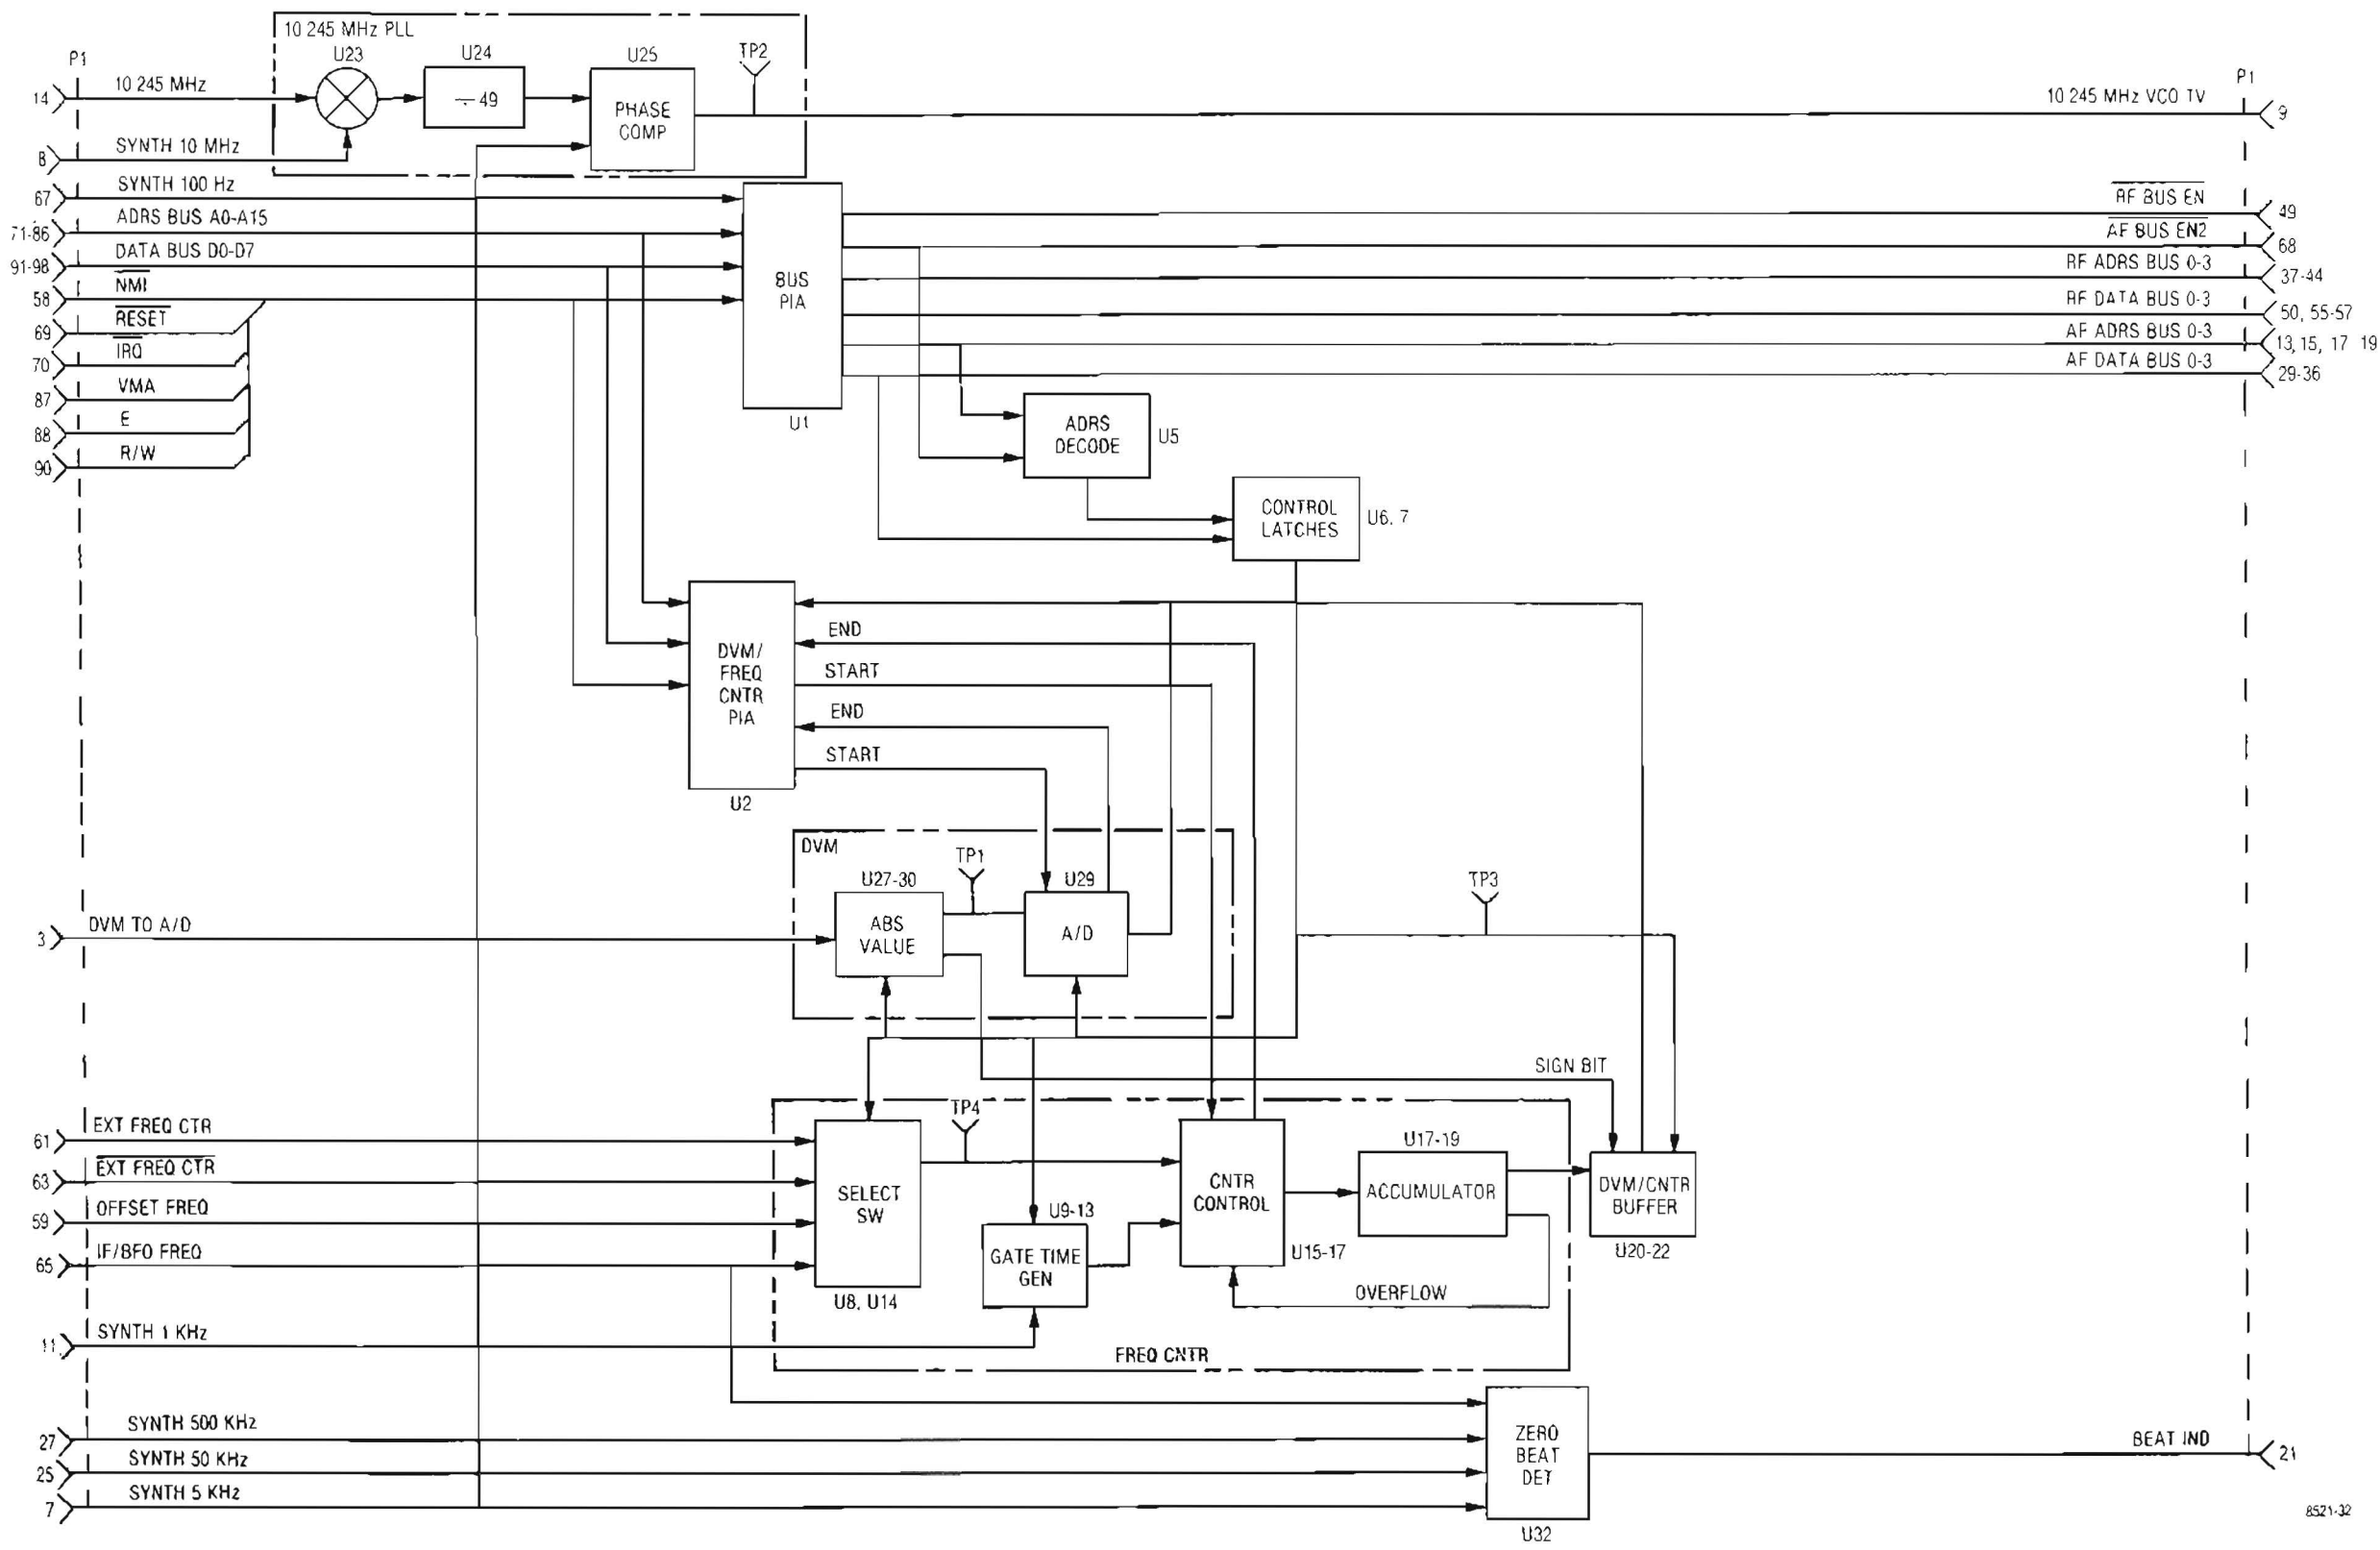

Figure 13-1. Processor I/O A7
**13-1. General.** Frequency Counter and DVM functions with their processor interface as well as the processor interface for the two system control buses are contained on this module. Additionally, circuitry to complete the 10.245 MHz phase locked loop, and to zero beat the incoming carrier are also on this board. A block diagram of the processor I/O module is shown in figure 13-1 with its schematic shown in figure 13-2.